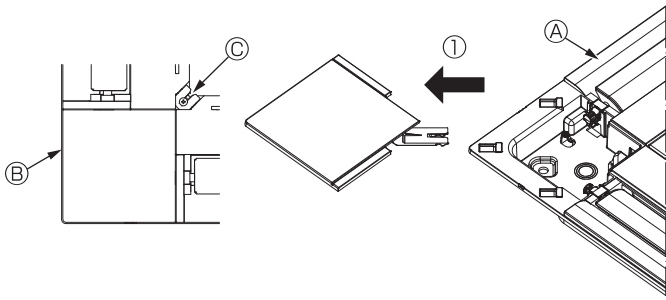

Fig. 10-4
10.2.2. Removing the corner panel (Fig. 10-4)
- Loosen the screw from the corner of the corner panel. Slide the corner panel as indicated by the arrow (I) to remove the corner panel.
- (A) Grille
- (B) Corner panel
- (C) Screw